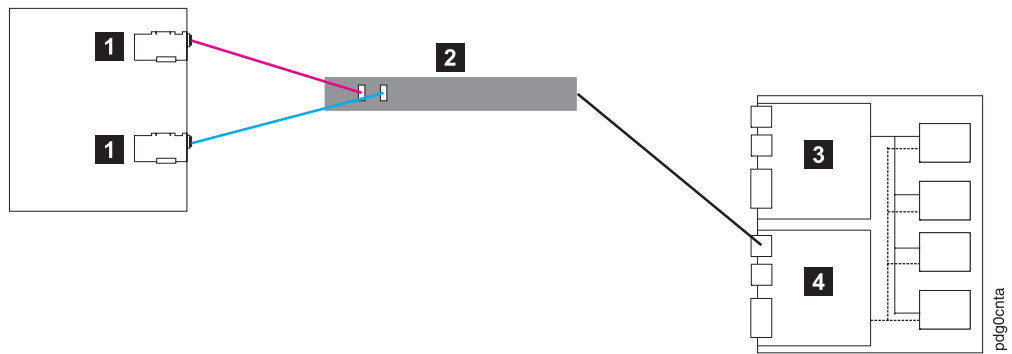

Figure 29. All I/O flowing through controller A
2. All I/O is flowing through controller A (4). This yields the diagram shown in Figure 29 for debugging.
Table 14. Description of Figure 29